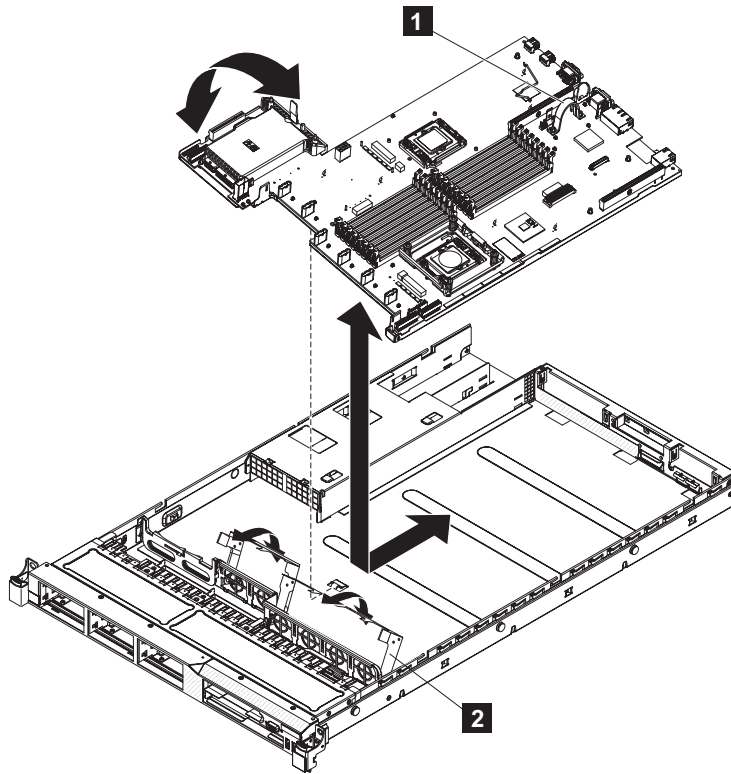

Figure 290. Removing and replacing the SAN Volume Controller 2145-CG8 or 2145-CF8 system board
1. Place the side of the system board assembly that is farther from the power supply units beneath the catches. Lower the opposite side of the system board until it is flat in the chassis. Align the rear connectors with the holes in the rear of the server and slide the system board towards the rear of the node, as shown in Figure 290 on page 289.